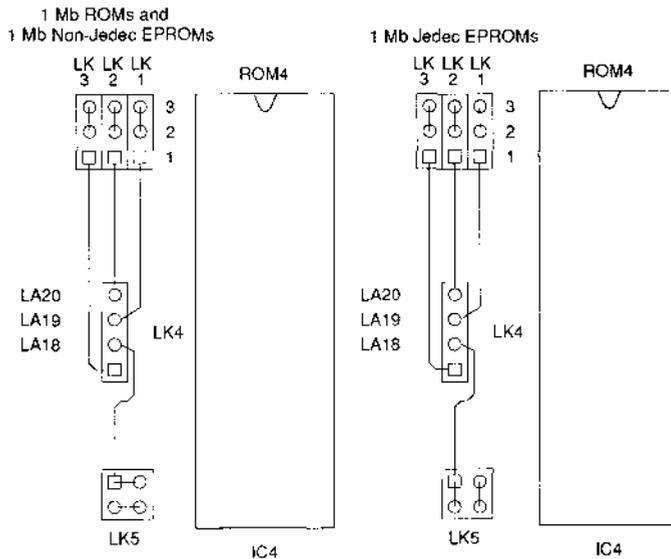

Figure 9 Links for RISC OS 2, 1 Mb ROMs
- 8 If you have re-used the original **1Mb** ROMs you need to fit the plastic shunts to the upgrade daughter board, as shown in Figure 9 overleaf. Remove the shunts from LK 12 on the mother board.